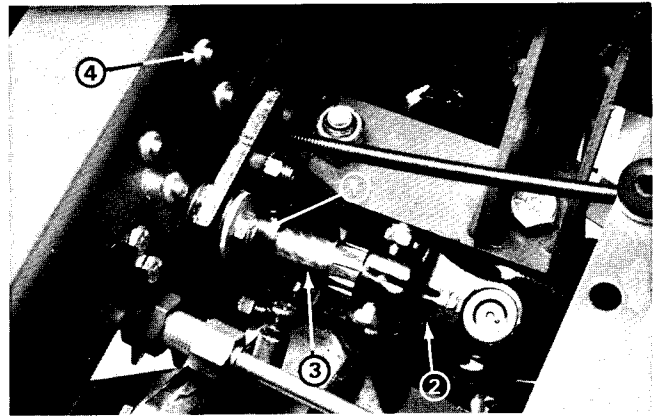
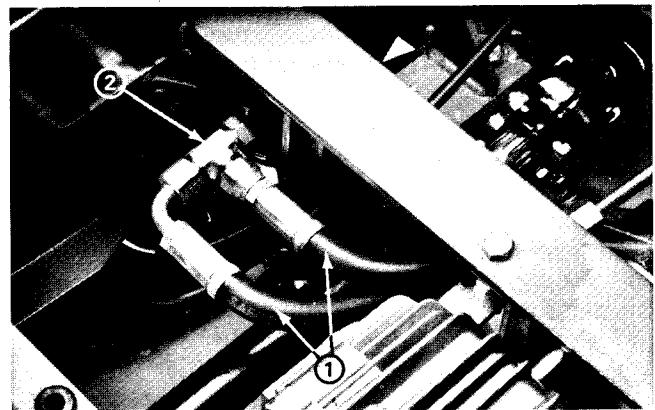
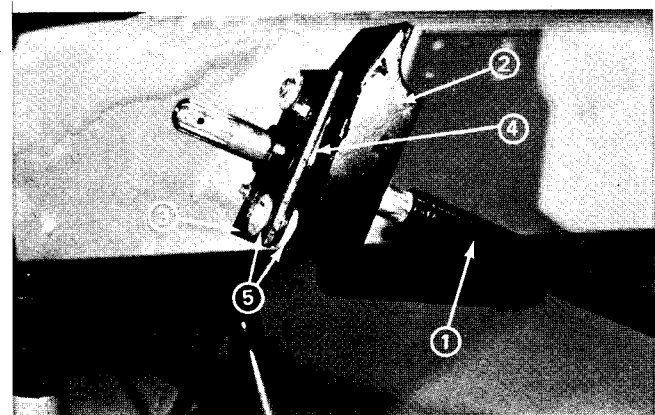

Figure 16
Figure 17
Figure 18
6. Loosen the setscrew on the front locking collar (Fig. 16). Use a punch and hammer to rotate the collar clockwise (as viewed while facing the front of the machine).
7. Drive the roll pin out of the yoke on the PTO universal drive shaft (Fig. 16). Loosen the clamping bolts and lock nuts. Disconnect the yoke from the PTO shaft.
8. Disconnect the two (2) hydraulic hoses from the "tee" fitting on the left-hand lift cylinder (Fig. 17). Put caps and plugs on the fitting and hoses to prevent contamination of the hydraulic system. This will give better access to the four (4) cap screws securing the bearing bracket to the chassis (Fig. 16).
9. Remove the four (4) cap screws securing the bearing bracket to the chassis.
11. Separate the PTO bearing bracket from the bushing support plate by removing the two (2) capscrews, washers and lock nuts (Fig. 18).
**IMPORTANT:** When installing the rubber mounts between the bushing support plate and bearing bracket, make sure the small end of the rubber mounts go through the holes in the bearing bracket. As the cap screws are tightened, the small end of the rubber mount should flatten out evenly between the flat washer and the front face of the bearing bracket (Fig 18). Tighten the cap screws until the bracket bottoms against the internal spacers in the rubber mounts.